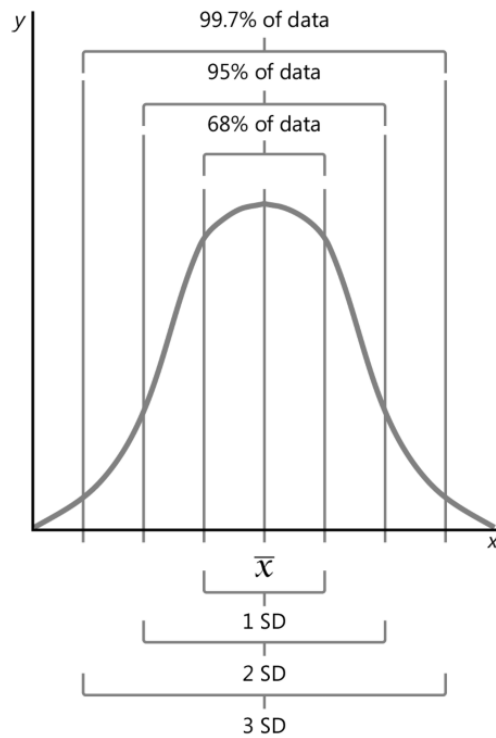

FIGURE 4-10 A curve showing standard deviations.
Figure 4-10 shows a normal distribution and the range of a population you would expect to find with either one, two, or three standard deviations (SD) either side of the mean.